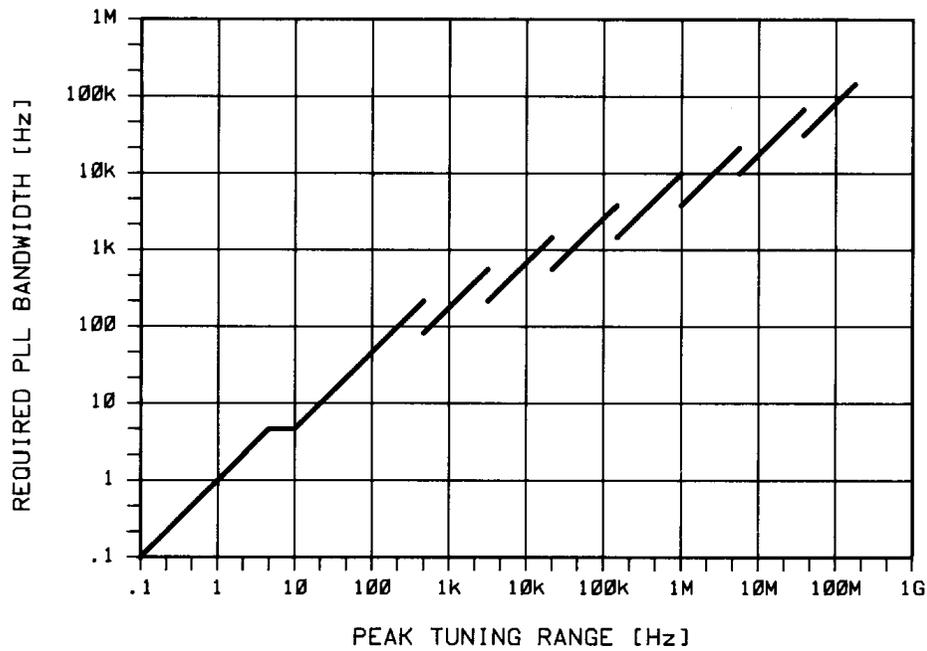

Figure 6-8 Peak Tuning Range (PTR) Required by Injection Locking.
The PTR for the measurement is set by the tuning characteristics of the VCO source you are using. Notice in Figure 6-8 on page 6-17 that increasing the PLL bandwidth can require a substantially larger increase in the PTR. For information on the limitations of increasing the PTR, refer to Changing the PTR in this section.
3. Locate the required PLL bandwidth in Figure 6-8 to determine the PTR required for the measurement. (For details on increasing the PTR, refer to Changing the PTR in this section.)